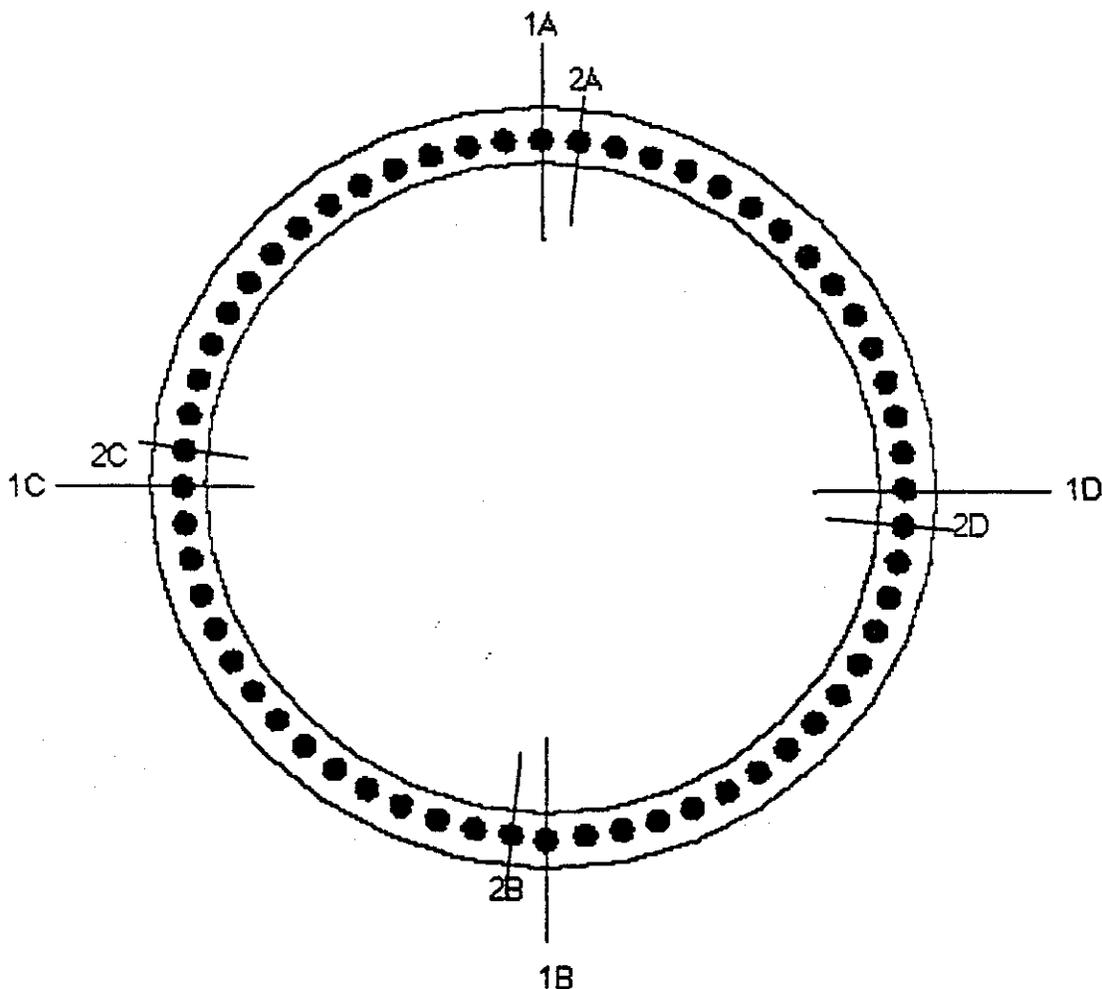

Fig. 5
2. Follow the sequence numbered in sequence Fig. 5 and tighten all the bolts down to 25 ft-lbs.